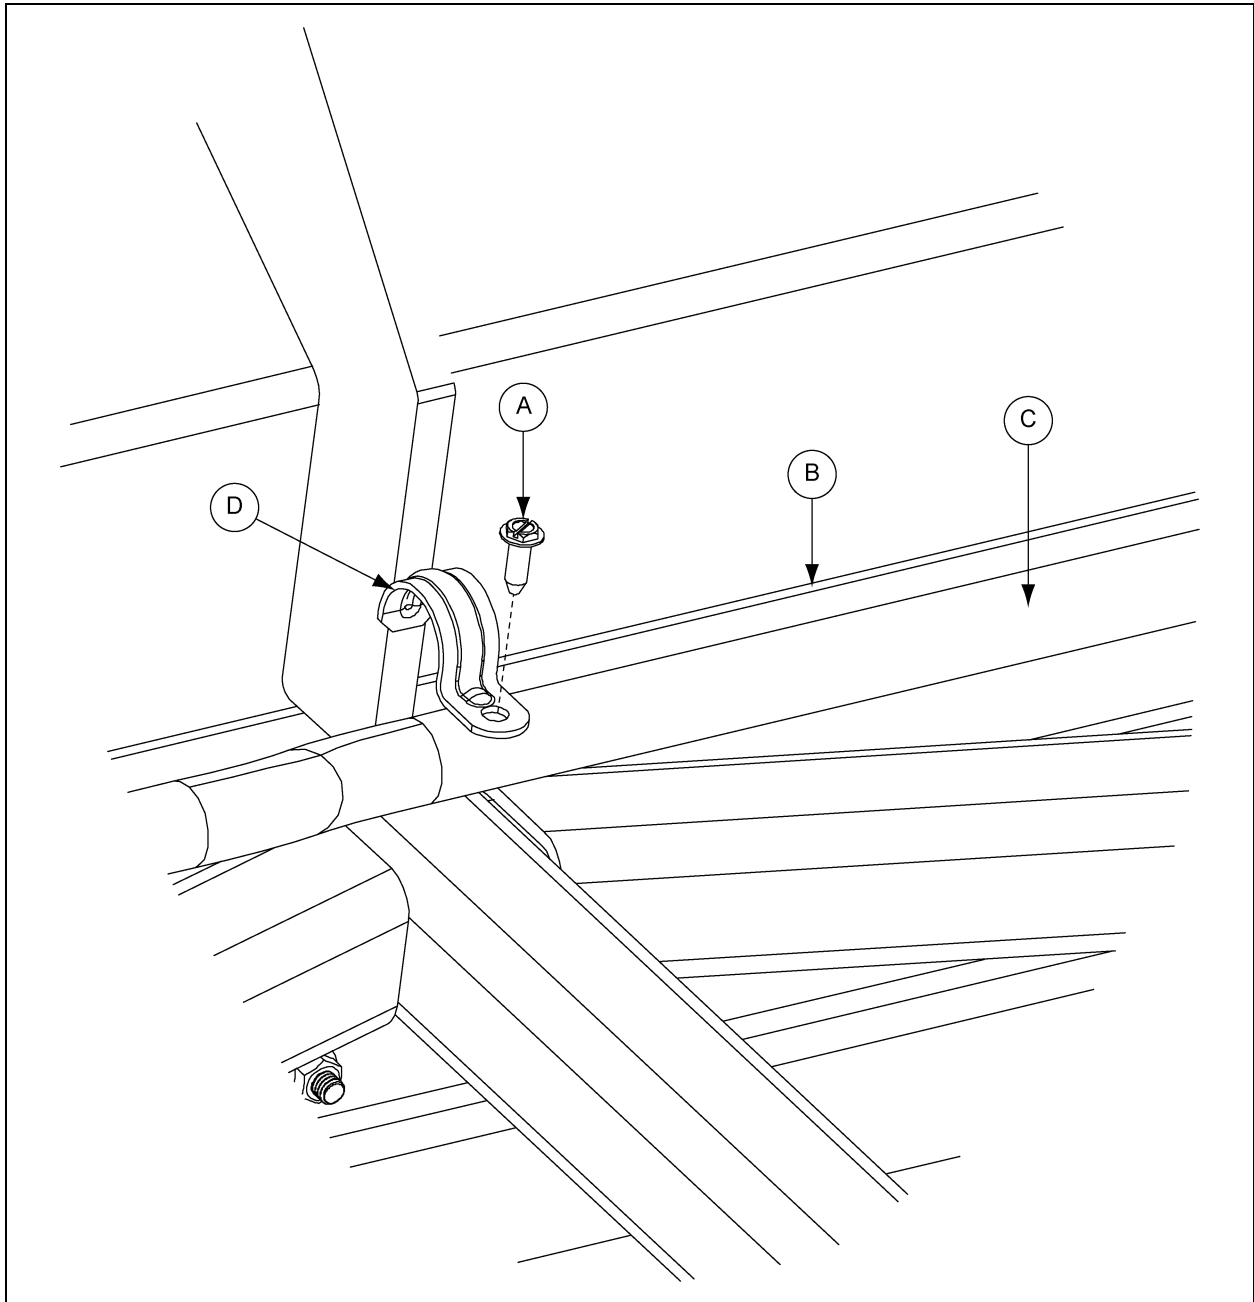

Figure 8P
1. Install conduit (C) to sweep shield (B) using clamps (D) and screws (A). (See Figure 8P.)